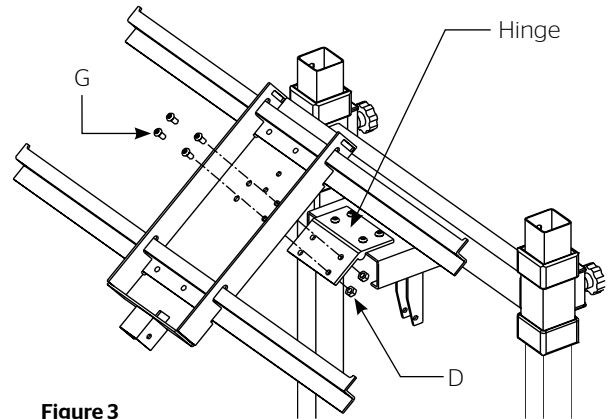

Figure 3
7. Attach Zee-Bar Plate to Hinge. See Figure 3.